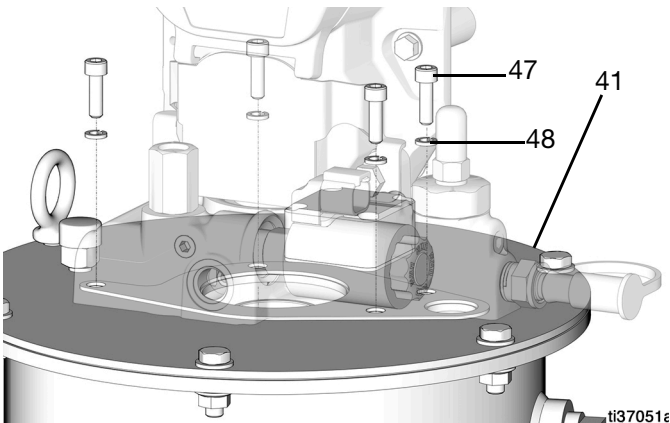

FIG. 26
4. Loosen and remove the four bolts (47) and four washers (48) holding the pump to the tank (41) with a 5 mm Allen wrench (FIG. 26).